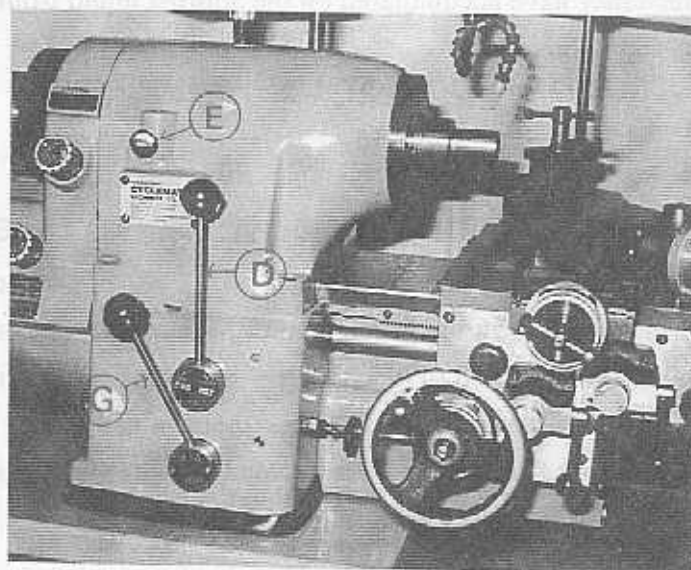
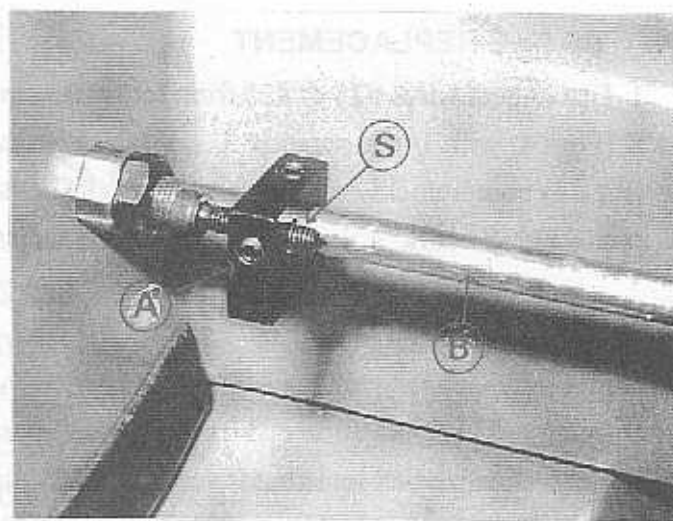
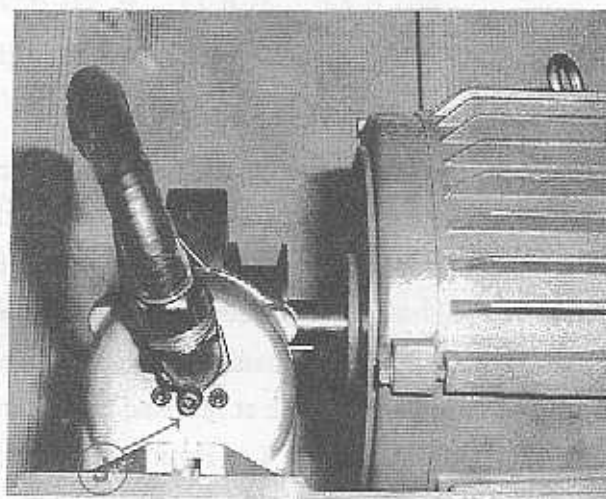
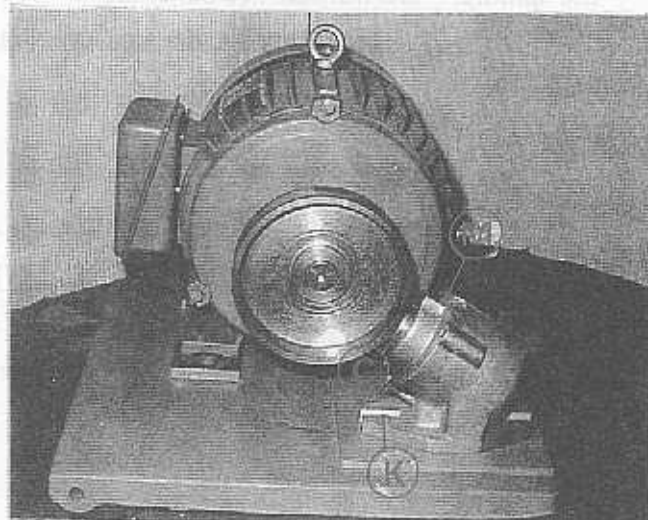

Figure 4 - Control Speed and Direction
Figure 12 - Thread Length Control
Figure 13 - Brake Adjustment
Figure 14 - Brake Cork Replacement
Place Control Lever "G" (Figure 4) in the "LOW" position, pull out Spindle Locking Pin "E", turn "C" (Figure 5) in forward position. The spindle should rotate counterclockwise when viewed from the tailstock end of the machine. If the spindle does not turn in the correct direction, turn Cam Switch "A" to "OFF" position. Disconnect electric power source, and interchanges any two leads until the turning direction is correct. When the spindle is rotating correctly, secure switch case cover, turn Cam Switch "A" to "ON" position.
Lubricate the vertical screw "V" (Figure 6) with grease in fitting "N" as shown in (Figure 6). There after grease monthly or as necessary. Whenever you start to operate the machine, add a few drops of light oil in the Vertical Screw "V" (Figure 6) and the Brake Cork "C" (Figure 14).
When threading into a blind hole or to a shoulder without a thread relief. The lead screw half nut is engaged at the start of the threading and remains engaged until threading work is completed. Left or right hand threads are controlled by Control lever "D" (Figure 4), the lever is joined with the control bar "B" (Figure 12). When the carriage touches the adjusting screw "S" (Figure 12) of the length control bar, it will push the lever "D" to "STOP" position, and make the lead screw stop. For method of threading cut, please see Page 8, QUICK ACTING.
The Spindle Brake is built for rapid stopping of the headstock spindle. Turn the Control Lever "G" (Figure 4) to "BRAKE" position, the spindle will automatically brake at all speeds within a few seconds. The Brake is actuated when the brake cork "C" (Figure 14) is forced against the brake drum (Figure 14) by spring action and is released by a solenoid. Allowing brake cork to become dry will reduce belt and brake life, so add a few drops of spindle oil to the brake drum as often as necessary.
1. Disconnect wires #25 & #25 from terminal, strip and remove conduit.(Fig.3) 2. Remove tow bolts K (Fig.14) with 14mm wrench. 3. Loosen set screw "M" (Fig.14) in keyway, turn adjusting screw "J" (Fig.13) counterclockwise and remove brake housing. Use a pin punch through adjustment hole to remove brake cork. 4. Install new brake cork and assemble in reverse order.